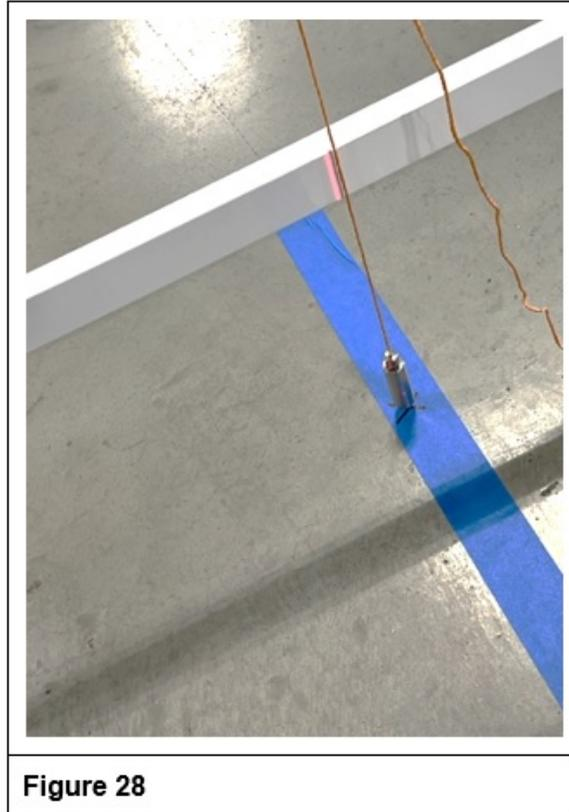

Figure 28
38. Ensure that the middle of the target is still 4,650 mm (+/- 20 mm) from the vehicle's front bumper cover. Adjust the target as necessary. Apply about a 2-foot length of masking tape to the floor centered under the Plumb Bob point, running lengthwise with the laser beam. Mark the masking tape with an X directly underneath the point of the Plumb Bob weight. (See Figure 28.)